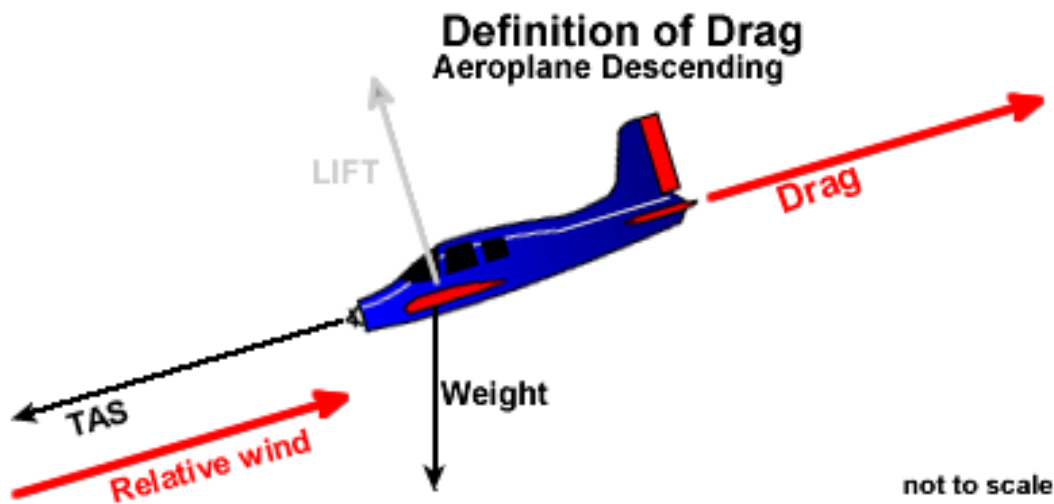

Figure 21
**Drag (D)** is the force that acts parallel to the relative wind, which is synonymous with saying opposite to the direction of flight. Consider Figure 21, where you can see that drag is not horizontal – it is parallel to the relative wind.
**Thrust (T)** is the force created by the aeroplane’s engines. Its direction depends on how the engines are installed on a particular aeroplane. In most aeroplanes thrust acts along, or